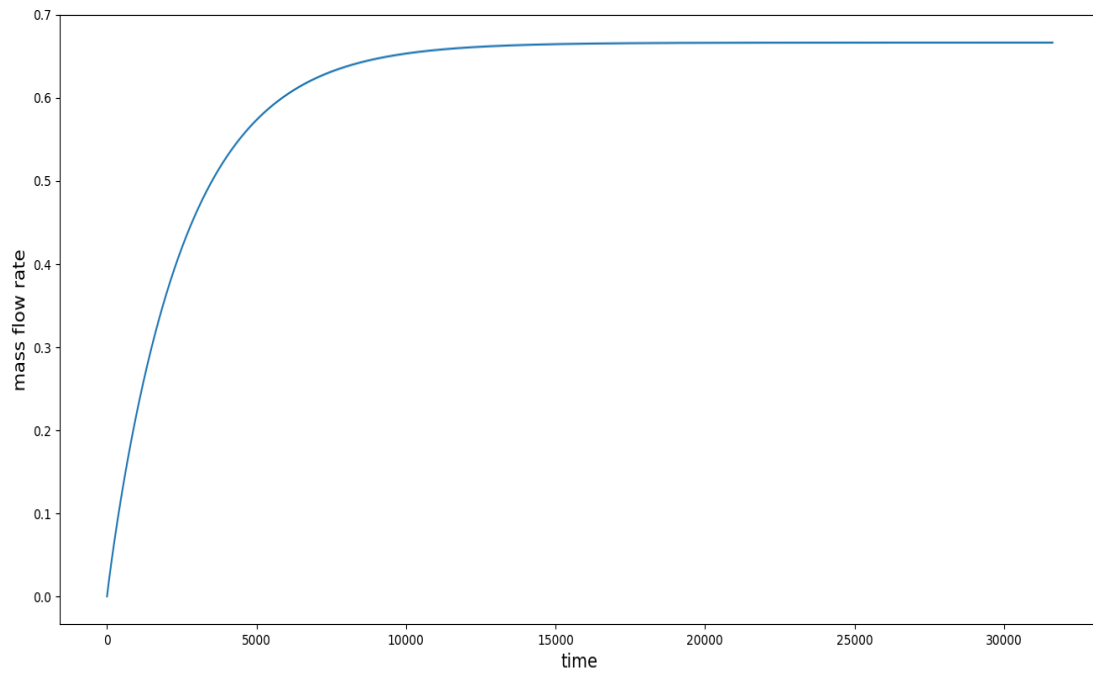

Figure 6: Mass flow rate with time upto steady state
- Figure 6. is plotted from the following equation for energy: